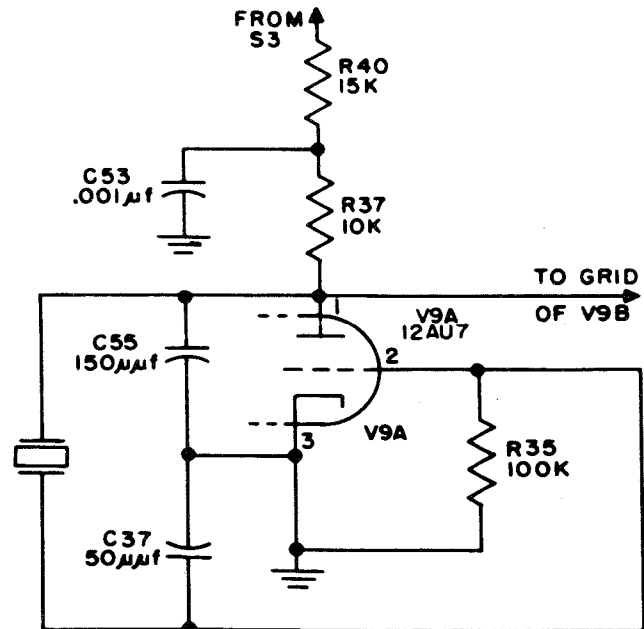

Figure 2-7. Crystal BFO Circuit, Simplified Schematic
f. CRYSTAL BEAT FREQUENCY OSCILLATOR V9A. (See figure 2-7.)—One of the crystals is placed into the beat-frequency oscillator circuit by switch S8. Plate voltage from the power supply is fed through meter shunt resistor R34, BFO ON-OFF switch S3, and plate load resistor R37. The plate voltage is filtered by resistor R40 and capacitor C53. Capacitor C55 feeds part of the signal from plate to ground, while capacitor C37 provides the grid excitation. Bias is supplied by grid leak resistor R35. The beat-frequency signal is applied from the plate of tube V9A to the grid of tube V9B through capacitor C52.